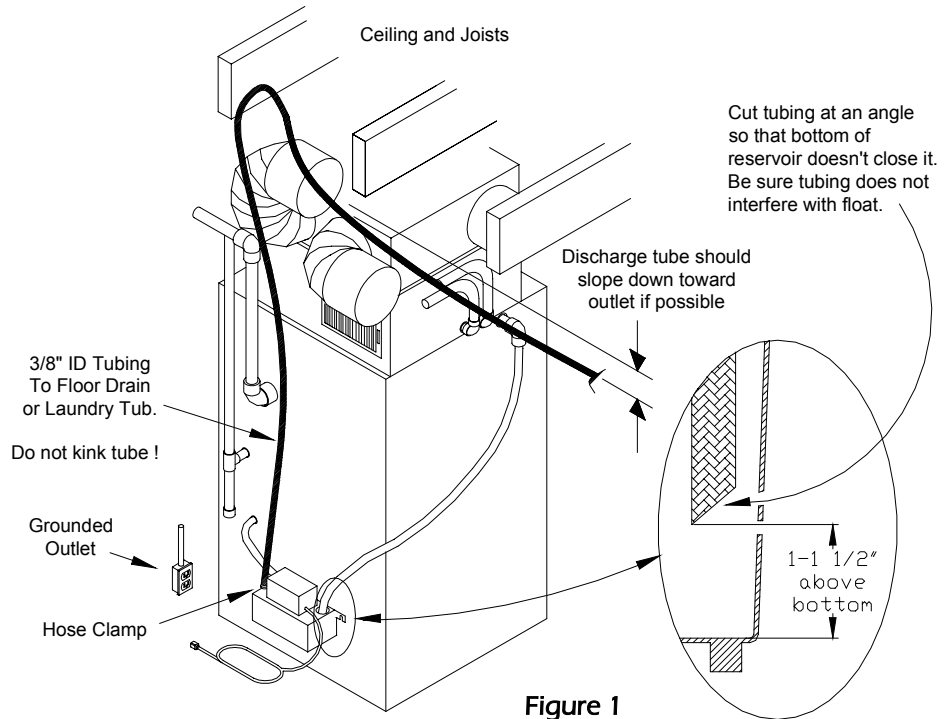

Figure 1
9. From maximum height slope tubing slightly downwards and/or make an inverted "U" trap at the highest point, creating a siphon to maximize pump performance. (Figure 1)